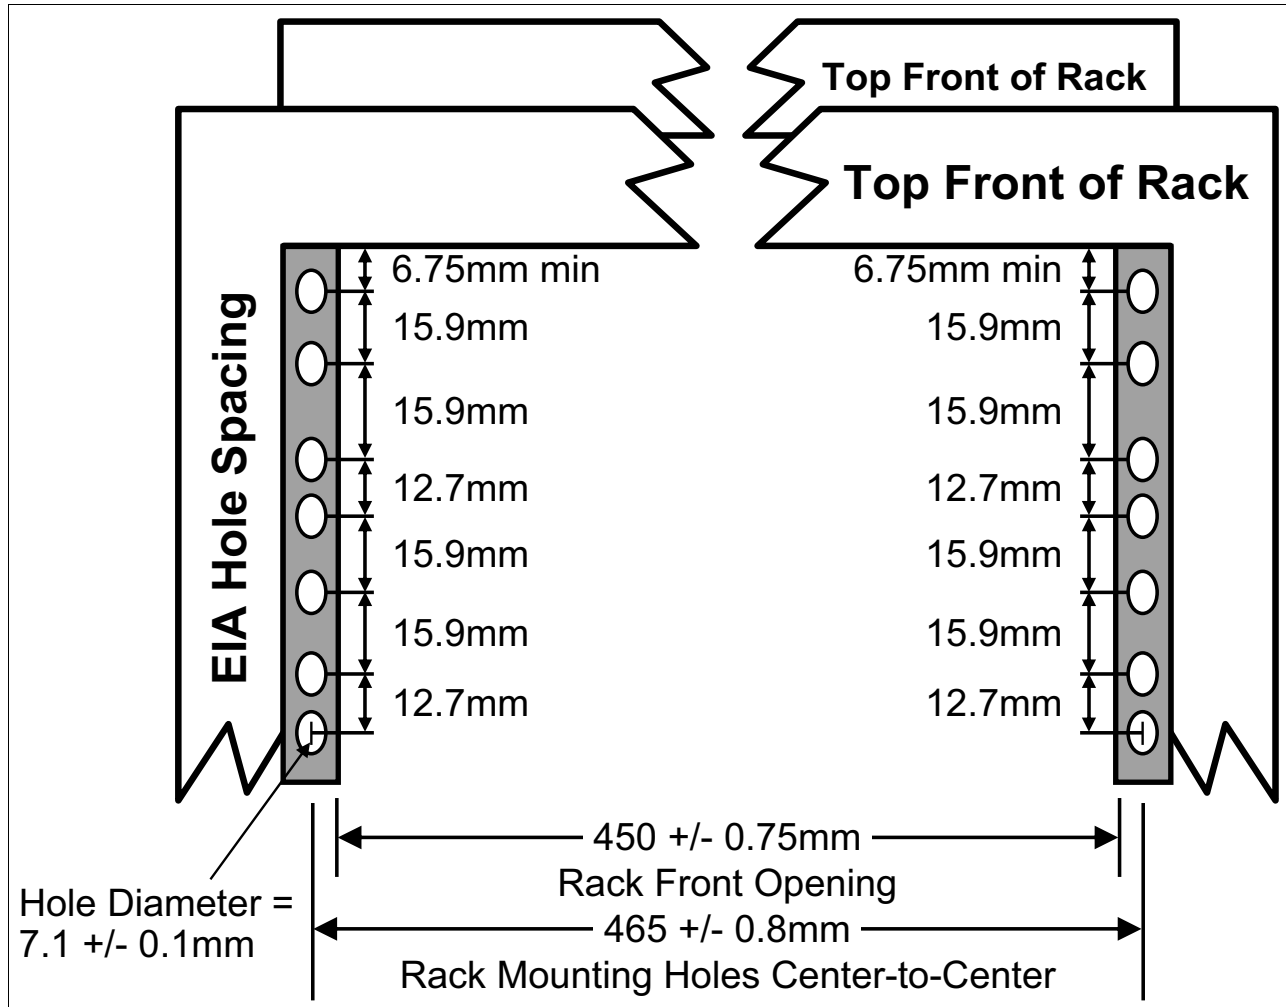

Figure A-4 Rack specification dimensions top front view
- The vertical distance between the mounting holes must consist of sets of three holes spaced (from bottom to top) 15.9 mm (0.625 in.), 15.9 mm (0.625 in.), and 12.67 mm (0.5 in.) on-center, which makes each three-hole set of vertical hole spacing 44.45 mm (1.75 in.) apart on center. Rail-mounting holes must be 7.1 mm  $\pm$  0.1 mm (0.28 in.  $\pm$  0.004 in.) in diameter. Figure A-4 shows the top front specification dimensions.